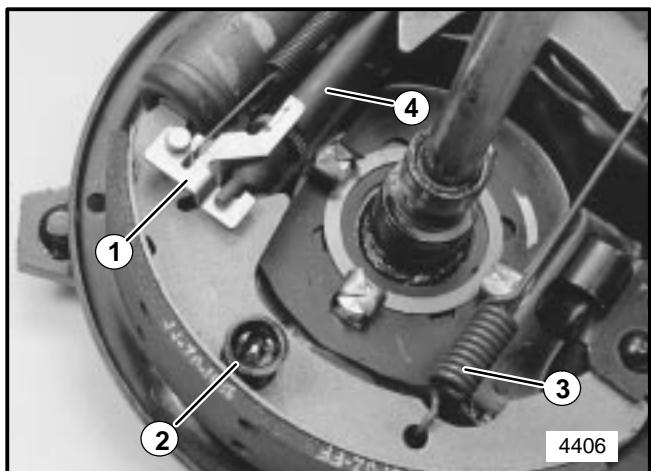

FIGURE 6
- Disconnect both return springs from shoe assembly and brake lever. Remove shoe retainers. Remove brake lever and adjuster. Care must be taken not to disturb the hydraulic wheel cylinder. Remove the brake shoes from the backing plate. See Figure 6.